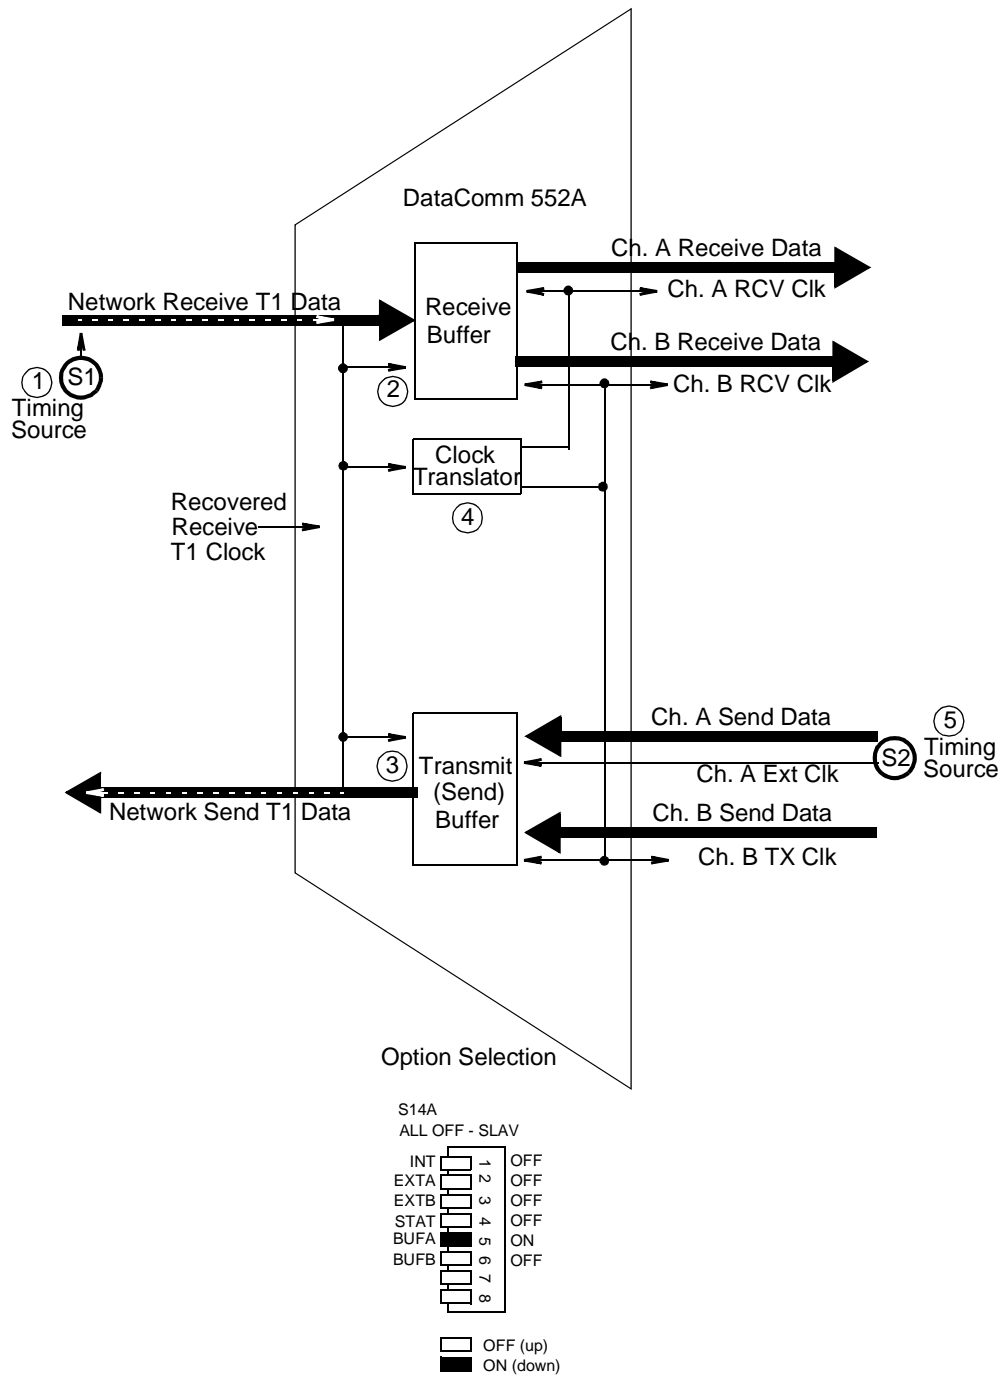

Figure B-5 Channel A Split Timing
Channel A Split Timing - Channel A Split Timing, illustrated in Figure B-5, is a combination of Slave Timing and Channel A Timing, and it utilizes two clock sources. As in Slave Timing, the network (or a device at the remote end) provides one timing source (1). The DSU recovers the receive T1 clock from the network receive T1 data and uses it to clock T1 data into the receive buffer (2) and to provide the send timing source for T1 data output from the transmit buffer (3) to the network. The DSU also translates (4) the receive T1 clock to provide the channel transmit clock signal for Channel B and the receive clock signals for both channels, on the appropriate interface leads for each channel. As in Channel A Timing, the customer equipment on Channel A provides the other timing source, its own channel transmit clock signal (5) on the appropriate interface lead, but the DSU uses it for nothing else.